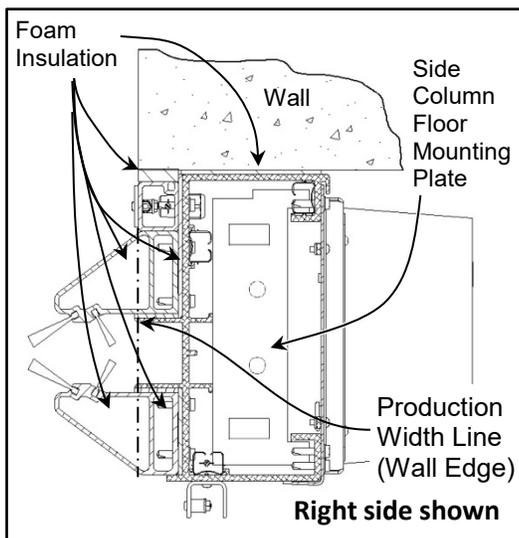

Figure 12
3. Stand one side column on the floor. Place it against the wall on the appropriate side of the door opening (i.e. left on left side, right on the right side), just outside the line indicating the production width of the door. Use clamps as needed. (See Figure 12)
- Once the side column is set plumb and square, mark the center of the slot locations and the column edges on the wall. Predrilled anchor points have been provided in the side column. Remove the side column and drill anchor holes in the wall. Reset the side column plumb and square. Anchor it to the wall. **DO NOT** fully tighten the anchors at this time - they will be tightened later in the installation after the head assembly is installed. (See Figures 12 - 14)